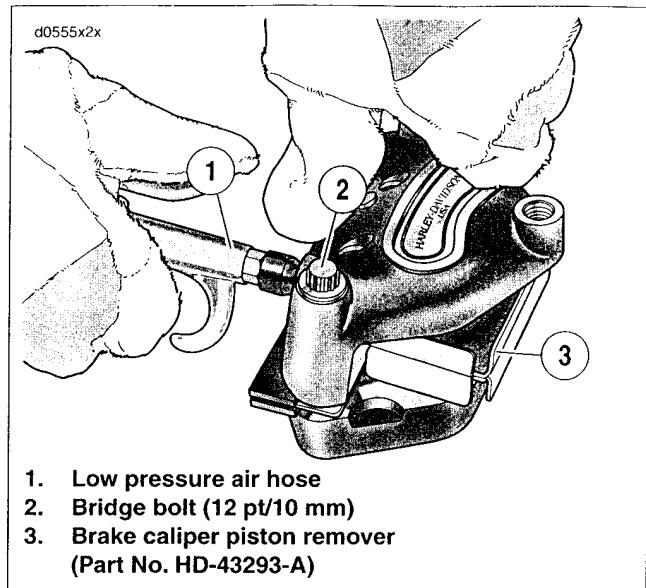
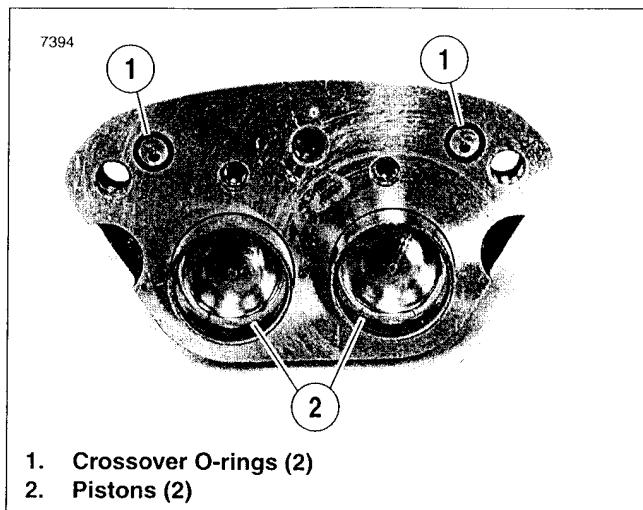

Figure 2-72. Removing Pistons
Figure 2-73. Crossover O-rings and Inside Housing
3. See Figure 2-72. Remove pistons.
- a. Place BRAKE CALIPER PISTON REMOVER (3) (Part No. HD-43293-A) between caliper housings.
- b. Insert two bridge bolts (2) (12 pt/10 mm) and tighten securely.
- d. Apply low pressure compressed air (1) to banjo bolt hole to remove pistons from caliper bores.
4. See Figure 2-73. Remove and discard both crossover O-rings (1) from inside caliper housing.
5. If necessary, wiggle pistons (2) from caliper bores to completely remove.
4. See Figure 2-73. Place two new crossover O-rings (1) on inside caliper housing.